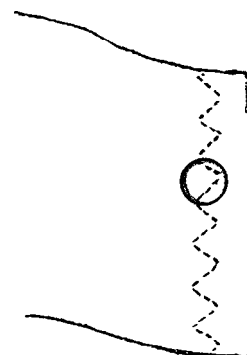

FIG. 1 Multiple Stitch Zigzag
**blind hem stitch**, *n—in home sewing* a complex machine stitch pattern consisting of small groups of straight or narrow zigzag stitches separated by a wide zigzag stitch unit at consistent intervals. (See Fig. 1.)